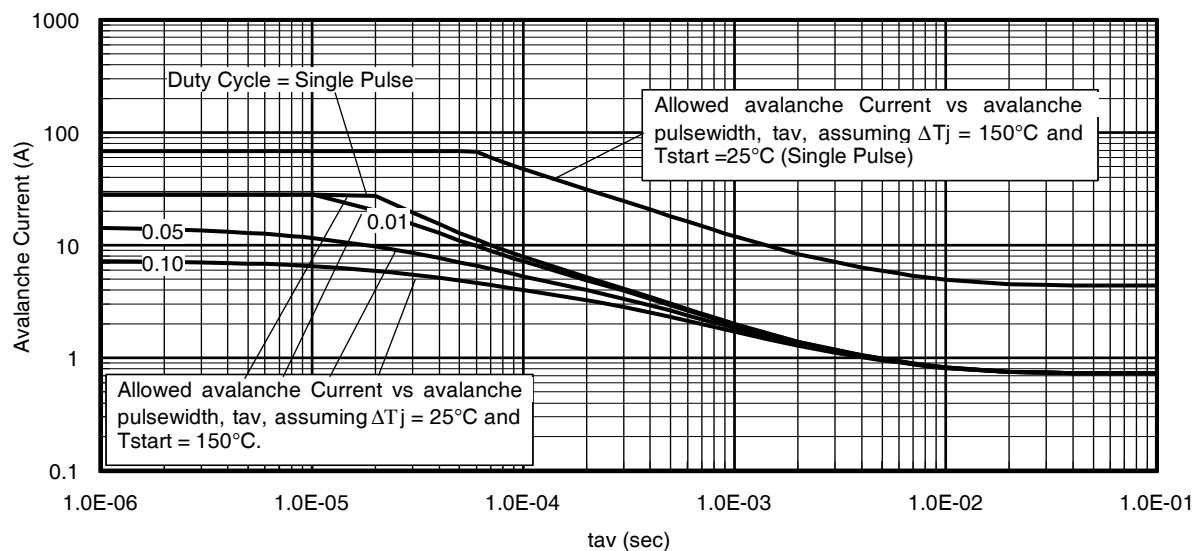

Fig 14. Typical Avalanche Current vs.Pulsewidth
Notes on Repetitive Avalanche Curves , Figures 14, 15:
7. $\Delta T = \text{Allowable rise in junction temperature, not to exceed } T_{jmax} \text{ (assumed as } 25^\circ C \text{ in Figure 14, 15).}$